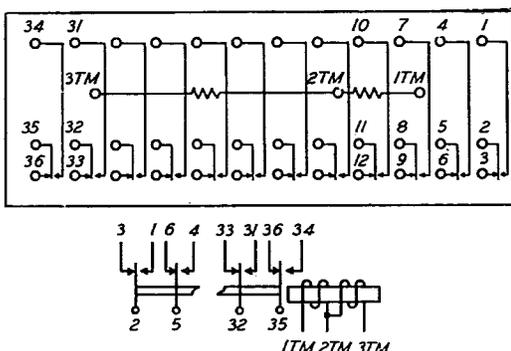

FIG. 56 - WINDING AND SPRING TERMINAL ARRANGEMENT AS VIEWED FROM REAR (TERMINAL SIDE) - KS-5264 TRANSFER SWITCH
3.15 KS-5264 Transfer Switches: With the switch mounted vertically with the pivot below the center of the coil, when viewed from the terminal side of the switch, the contacts in any row of terminals number from the top down beginning with 1 in the right row of terminals and progressing to the rows toward the left. The three winding terminals number from right to left as shown in Fig. 56.